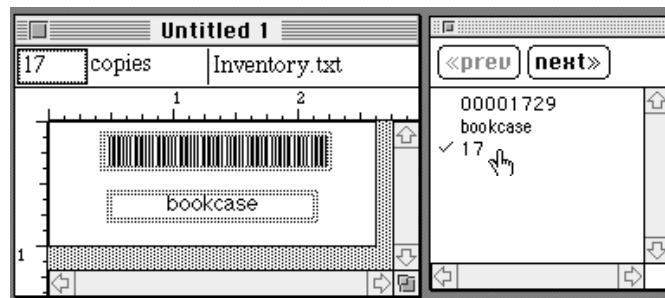

Figure 8-11 Selecting Quantity Field from the Data Palette
2. Click the “Quantity” field at the data palette. See Figure 8-11. This attaches the “Quantity” field to the Copy Control field.